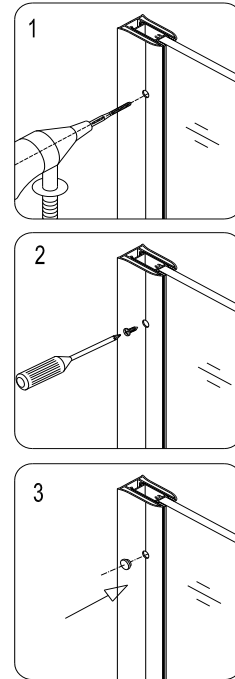

fig. 14
12. After final adjustments of the **Stationary glass** drill the holes in the **Glass profile** through predrilled holes in the **Wall profile** using 1/8" drill bit (You need to drill through only first wall of the **Glass Profile**). Use **Countersunk screw ST4.2x18 (14)** to attach the **Wall profile** to the **Glass profile**. Cover the exposed screw heads with **Decorative Plug (17)**. See fig. 14 for details.